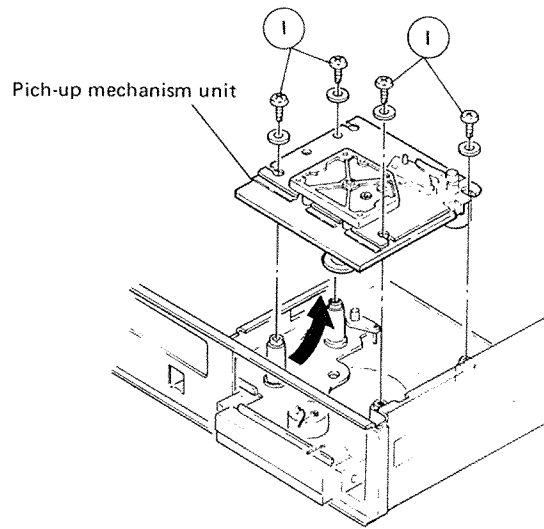

Fig. 4
- (4) Remove 4 screws ① and disassemble PICK-UP MECHANISM UNIT. (Fig. 4)